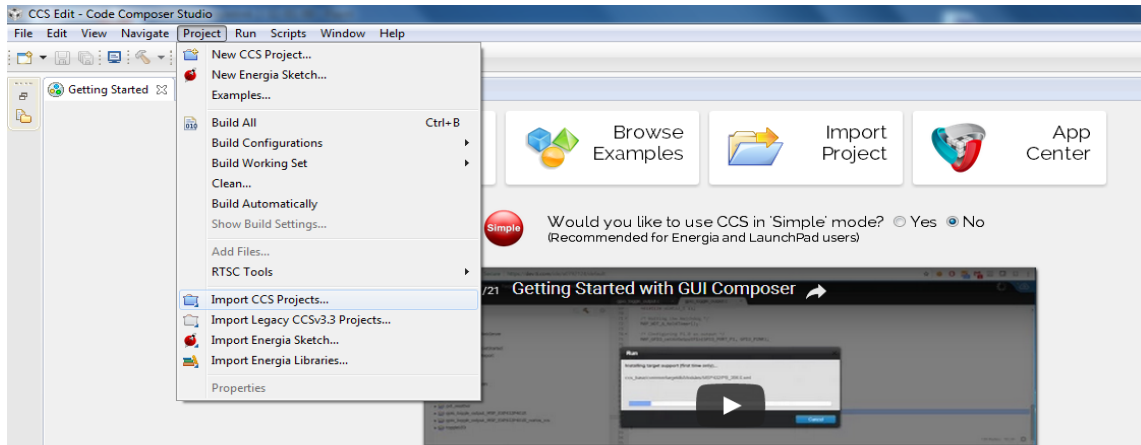

Figure 27, Import CCS Project tab.
- c. In the Project menu tab click "Import CCS projects..." (Figure 27).